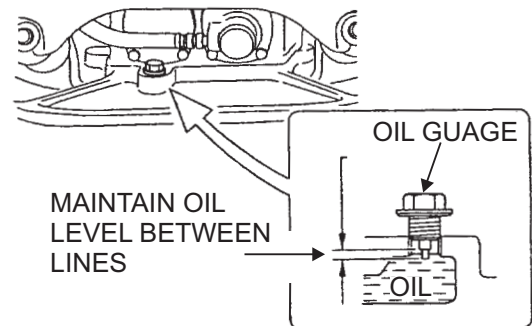

Figure 5. Vibrator Oil Gauge
2. Check vibrator oil level by removing bolt (vibrator oil gauge) as shown in Figure 5. Use a 14 mm wrench to remove bolt. The vibrator oil level should be maintained between the two markings as shown in Figure 5. If oil is required, replace using SAE 10W-30. Maximum oil capacity is .4 qts (400 cc).